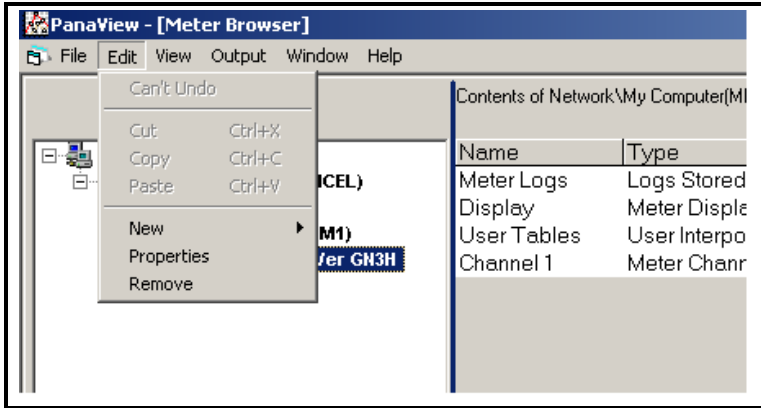

Figure 5-8: The Edit Menu
3. With the desired meter highlighted, open the “*Edit*” menu as shown in Figure 5-8 below.
1. From the “*Edit*” menu shown in Figure 5-8 on page 5-8, click on the “*Properties*” option. The dialog box shown in Figure 5-9 below appears.